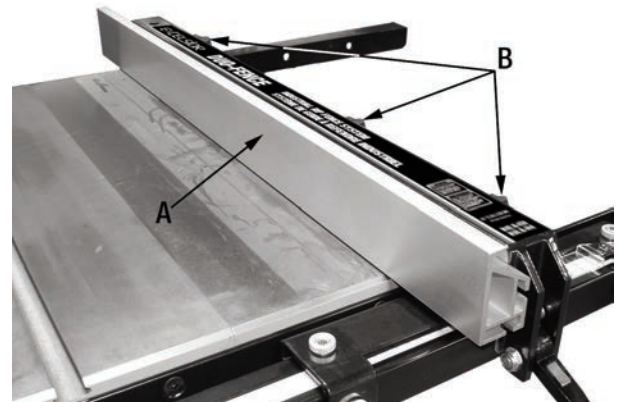

FIGURE 6
This rip fence system comes with an adjustable aluminum facing (A) Fig.6 & 7 which can be positioned in the “high” or “low” position depending on the cutting operation.
Fig.6 shows the aluminum facing positioned in the standard “high” position.
- 1) Loosen the 3 lock knobs (B) Fig.6.
- 1) Loosen the 3 lock knobs which lock the aluminum guide to the rip fence (B-Fig.6).